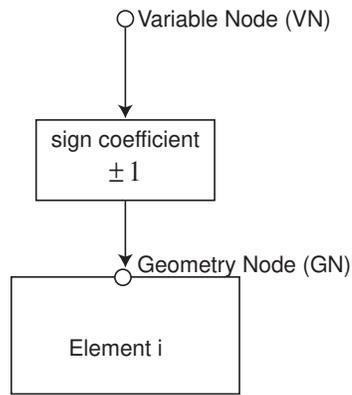

Figure 4.17 Variable Nodes in Indirect BEM
**Variable Node Concept** The concept of *Variable node* is introduced in *Indirect* model to allow greater flexibility in the modeling of an acoustic problem. The concept of *Variable node* relates the value of a variable ( $\mu$ ) at a geometry node in an Element  $i$  to its variable node through a positive or a negative sign (Figure 4.17). Each  $\mu$  node in an element is assigned with a positive or a negative sign to **allow meshes with adjacent elements oriented inconsistently**. This adds the flexibility to even handle one-sided surfaces such as *Mobius strip*. The sign coefficient for the first element at the node is chosen arbitrarily. The sign coefficients for the remaining elements at a geometry node are determined uniquely based on their orientations with respect to the first element. *Coustyx* automatically creates these nodes with appropriate signs when it skins the structure mesh.